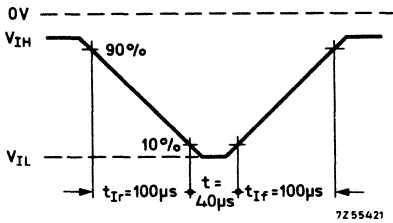
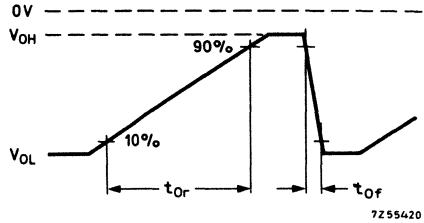

Fig. 2. Input voltage V_I
Fig. 3. Output voltage at pins
Input voltage levels (see also Fig.2)
Buffer output voltage levels (see also Fig.3)
Output signal rise time (see also Fig.3)
Output signal fall time (see also Fig.3)
2) Measured as a function of the input V_I of Fig.2 with the rise time adjusted to 100 μs ; the output pulse is shown in Fig.3.